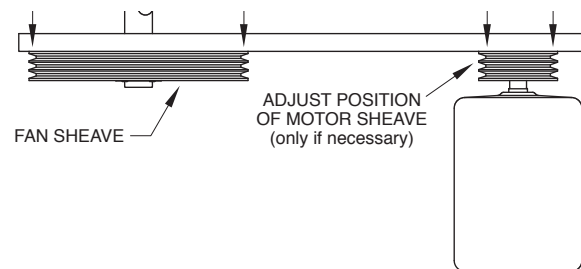

Figure 33 – Sheave Alignment Check
9. As a final check, lay a straight edge from sheave to sheave. There should be four point contact (See Figure 33). Adjust the position of the motor sheave as necessary.